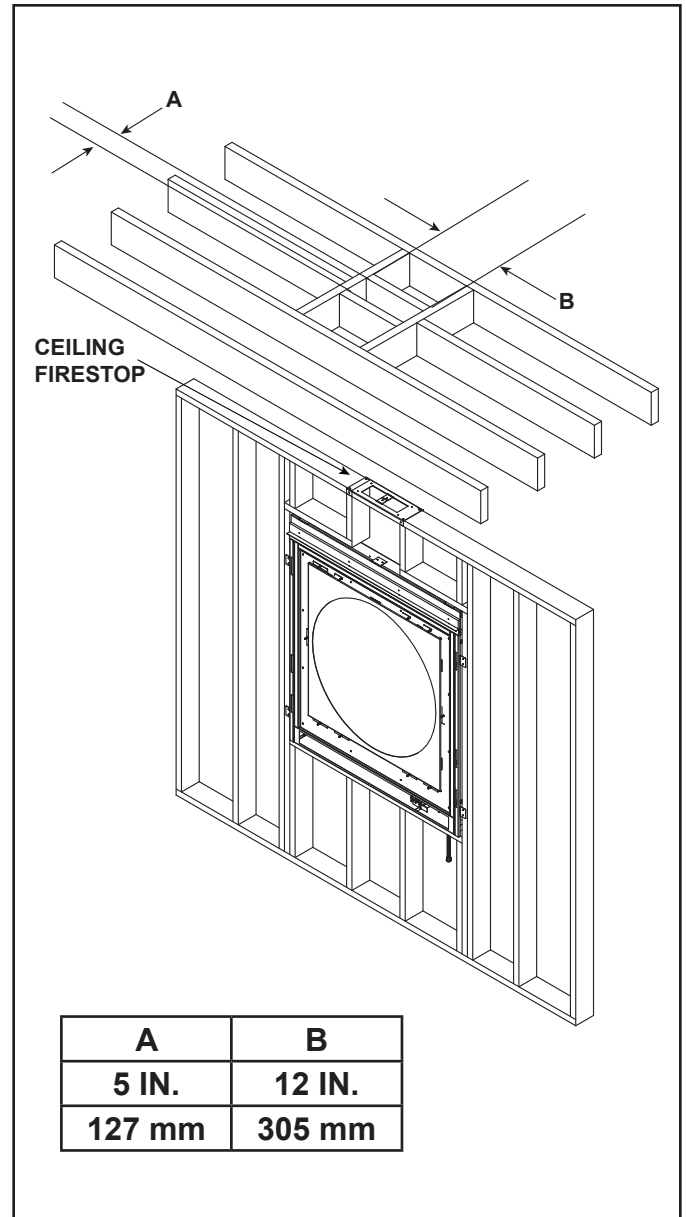

Figure 8.24 Installing DVRP-CFS Firestop
- **DVRP-CFS** - Remove a 12 inch section of the 2 x 6 top wall plate. Attach the firestop with two screws on each side. See Figure 8.24.